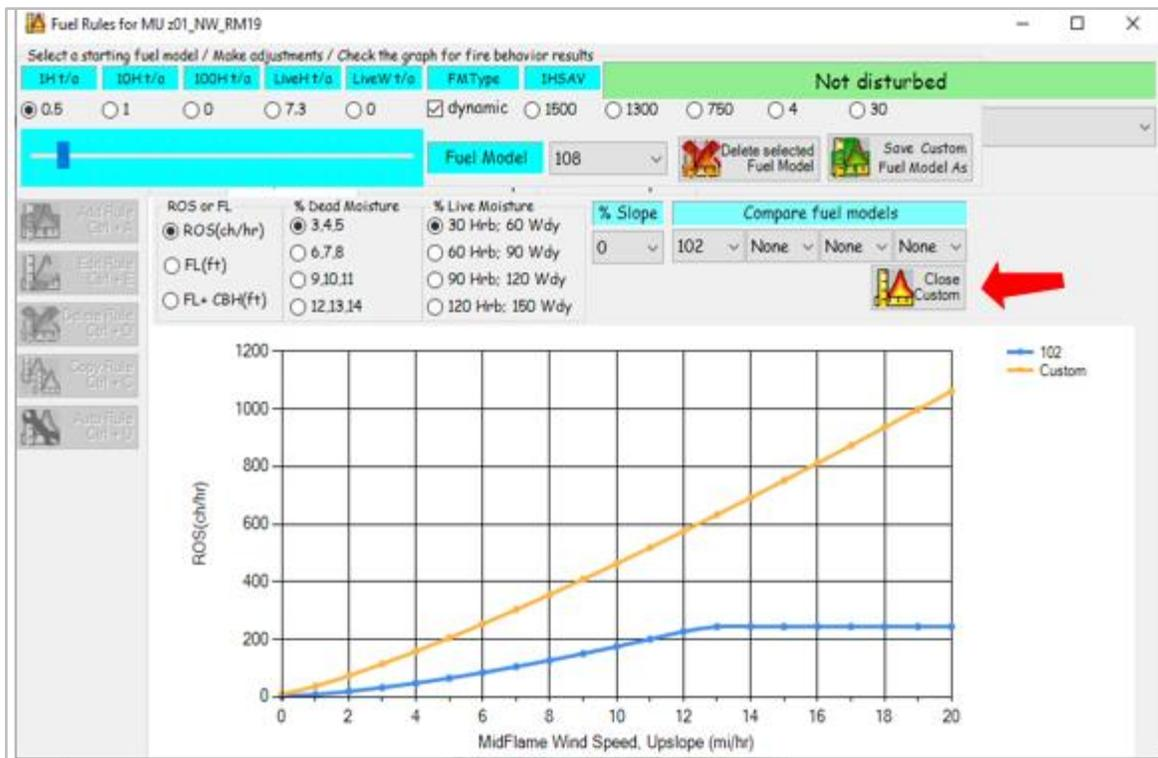

Figure 7-28: Create Custom Fuel Models page with Close Custom Fuel Model function.
- Make adjustments by selecting a parameter and then moving the slide adjustment (Figure 7-28).
- Close the custom fuel model interface when finished by clicking the same button, now called “**Close Custom**” (Figure 7-28).